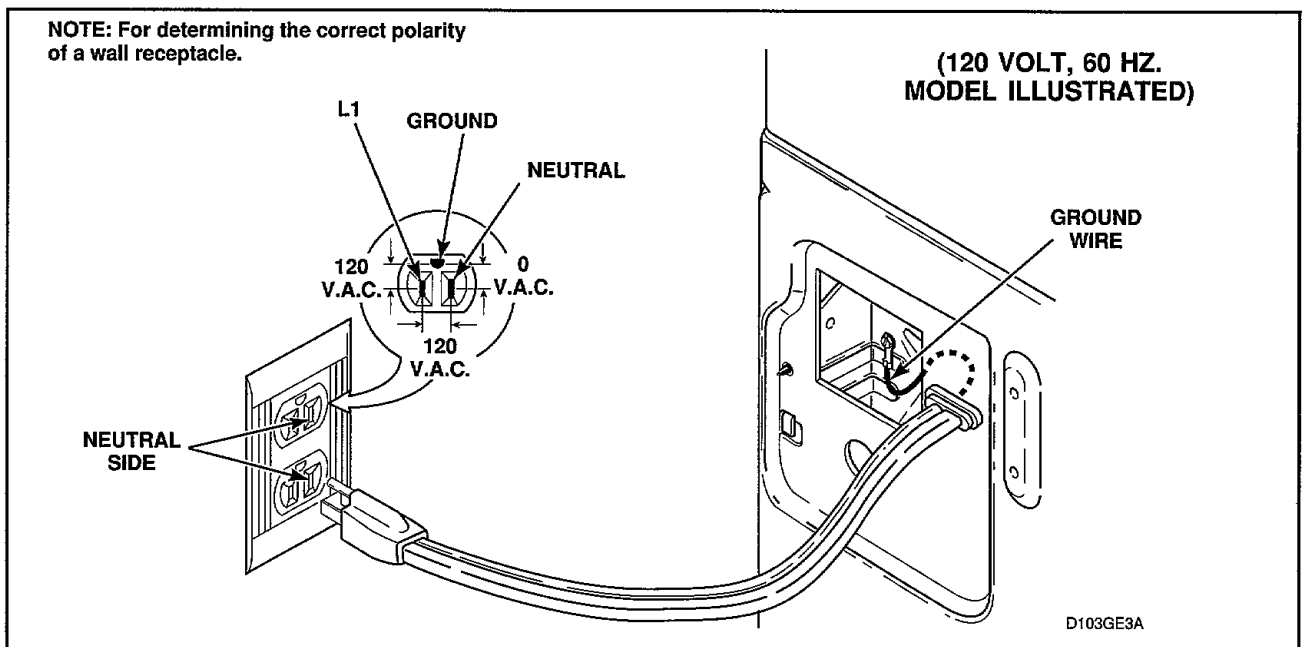

Figure 3
3. POWER CORD TO REAR BULKHEAD. WALL RECEPTACLE POLARITY CHECK (Gas Models Only — Figure 3).